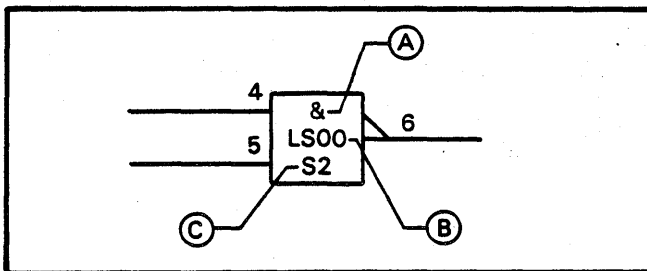

Figure 10-4. LOGIC SYMBOL
2. Each logic symbol in the schematic diagram reflects the function being performed, (A) component type, (B) and board location of the device (C). See Figure 10-4.